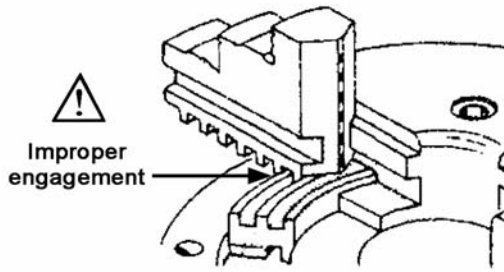

Figure 29 – Insufficient jaw tooth engagement
- Jaw teeth and scroll must be fully engaged, to prevent the jaws from breaking and being thrown from the chuck (see Figure 29).